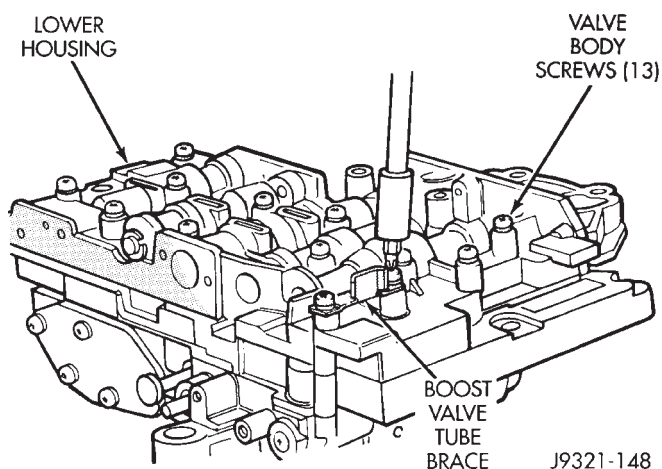

Fig. 105 Valve Body Screw And Tube Brace Location—46RH
(18) Turn valve body over so valve lower housing is facing upward (Fig. 105). In this position, check
(19) Remove screws attaching valve body lower housing to upper housing and transfer plate (Fig. 105). **Note position of boost valve tube brace for assembly reference.**